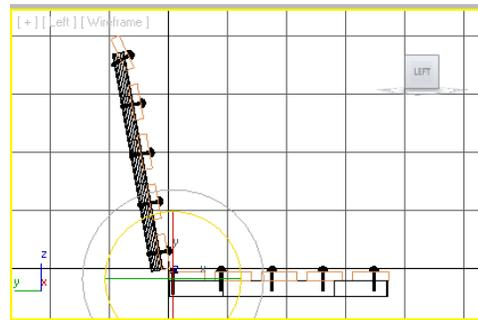

Figure 2-84 Rotating rivet in the Left viewport
- Select the rivet which is near *horizontal back support* and choose the **Select and Rotate** tool. Move the cursor over the Z-axis. Now, press the left mouse button and drag the cursor in the clockwise direction to rotate it until the angle of rotation in the Z spinner in the coordinate display becomes **-20**, refer to Figure 2-84.